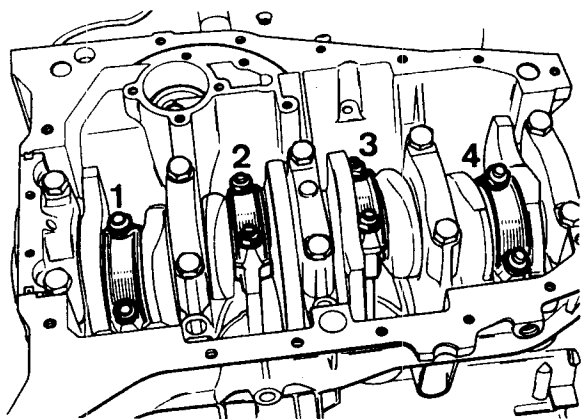

Fig.1.32 Big-end cap numbering (on crankshaft side for correct location)
- 3 Check the numbering of the connecting rods and the big-end caps. These should run from 1 to 4 from the clutch end of the engine and are marked on the camshaft side of the unit, Fig.1.32. In the event of these components not being marked, then dot punch them in such a way that the bearing caps will be fitted the correct way round when the mating marks are adjacent (photo).